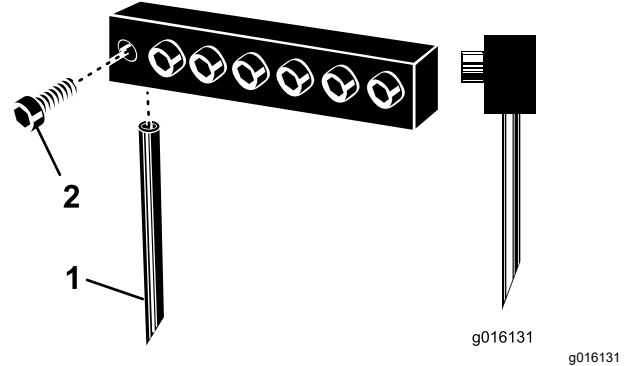

Figure 30
3. Loosen the clamping bolts and remove the previously used tines (Figure 30).
**Note:** Position hollow coring tines with the ejection slot to the rear. Position solid tines with the tine tip angle facing the machine (Figure 30).